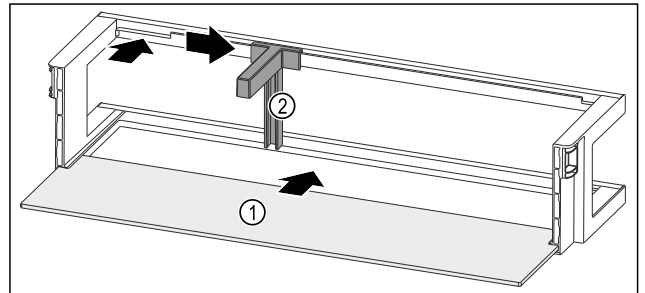

Fig. 51 Door rack with shelf
- ▶ Push the shelf Fig. 51 (1) into the side recesses.
- ▶ Insert the bottle holder Fig. 51 (2) in the recess.
- ▶ Push the bottle holder Fig. 51 (2) to the desired position to the side.